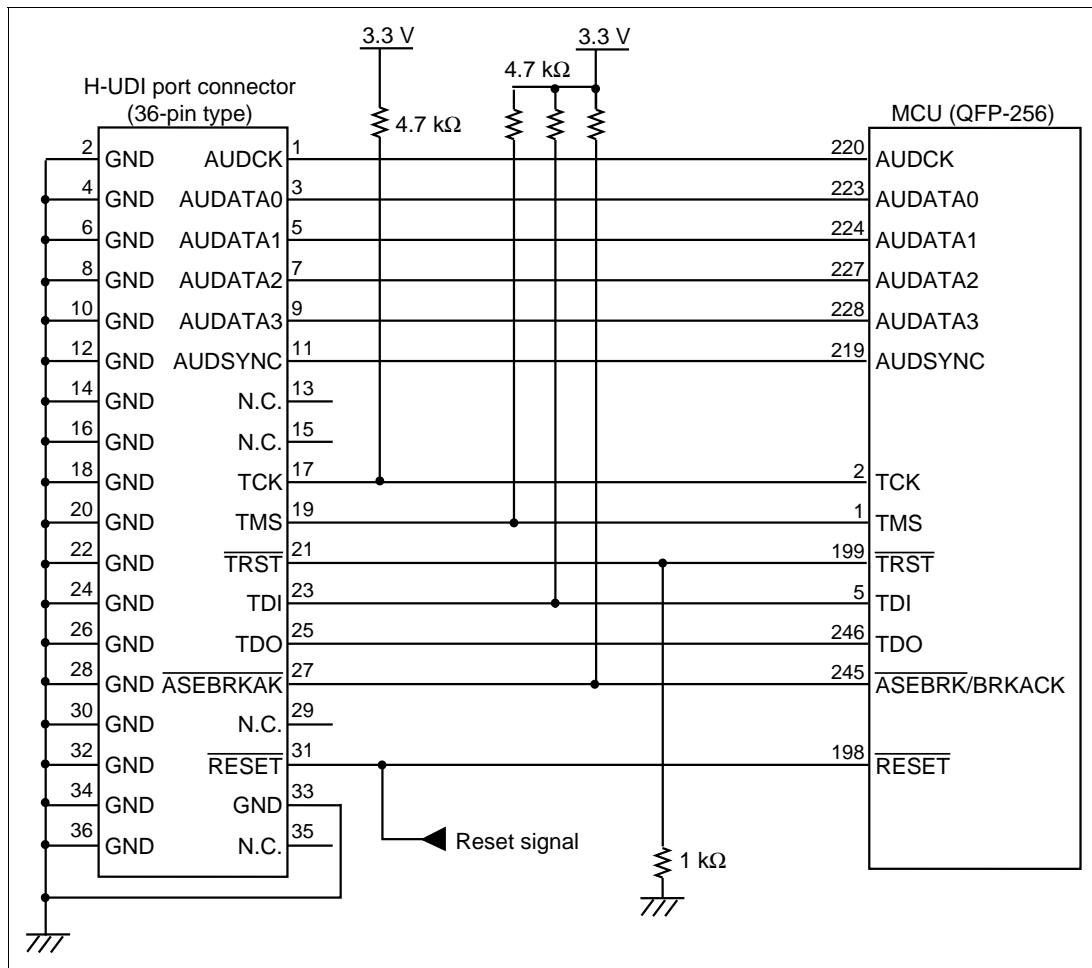

Figure 4.1 Recommended Circuit for Connection between the H-UDI Port Connector and MCU (36-Pin Type)
Figure 4.1 shows a recommended circuit between the H-UDI port connector (36 pins) and the MCU.
5. The resistance values shown in figure 4.1 are recommended.